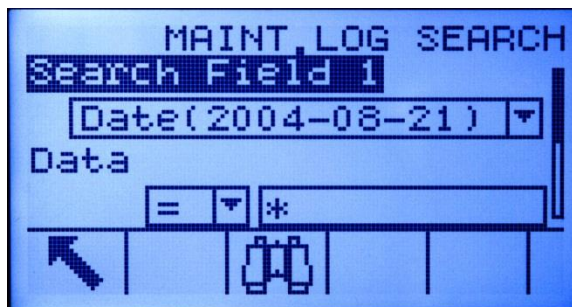

Figure C-10: Maintenance Log Search Screen
2. Press the VIEW TABLE softkey . The Maintenance Log Search screen displays (Figure C-10).